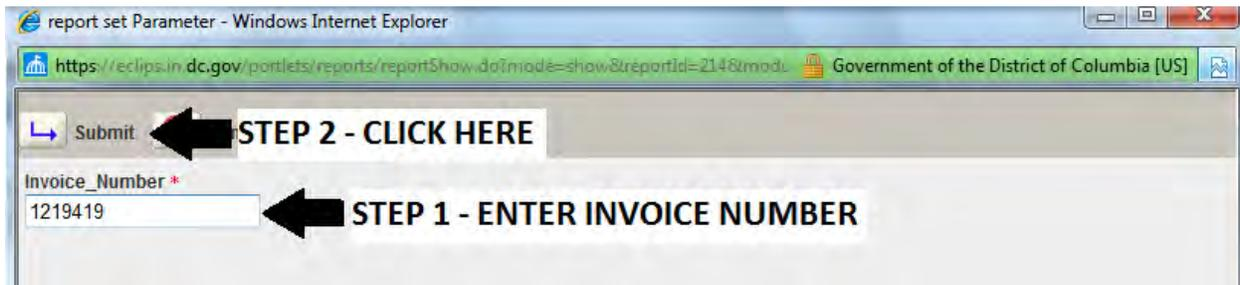

Figure 2.36
45. Clicking the “Invoice” link will open a new window. In the new window, enter the invoice number generated earlier in the “Invoice Number” field and click the “Submit” icon. (see Figure 2.36)